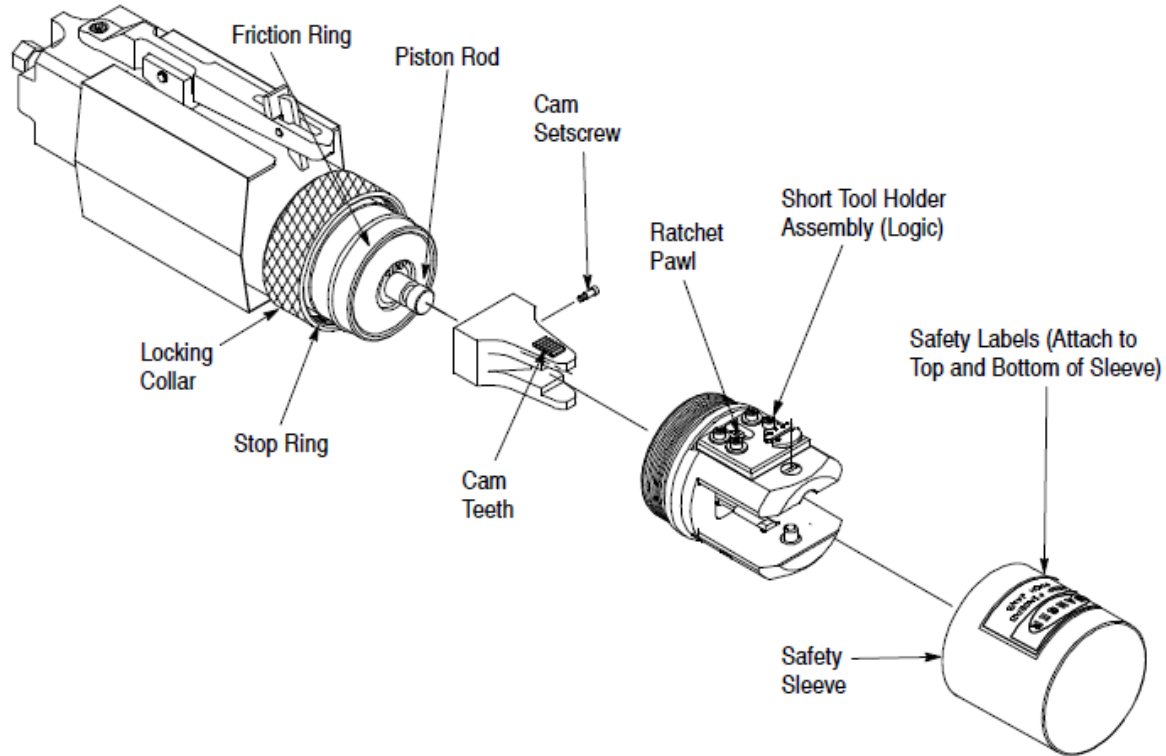

Figure 6
4.3. Cam and Tool Holder Assembly (Logic) Installation (Figure 6)
A strip of adhesive-backed safety labels, printed in various languages, is packaged with the tool holder assembly. Remove the appropriate label from the strip and attach it to the safety sleeve (which is supplied with the small and large tool holder assemblies) as shown in Figure 6; or, directly to the adapter (which does not require the safety sleeve).
2. Place cam (with setscrew) onto piston rod, as shown in Figure 6. Cam should butt against the piston rod face. If not, turn the cam setscrew counterclockwise until cam fits on piston rod properly.